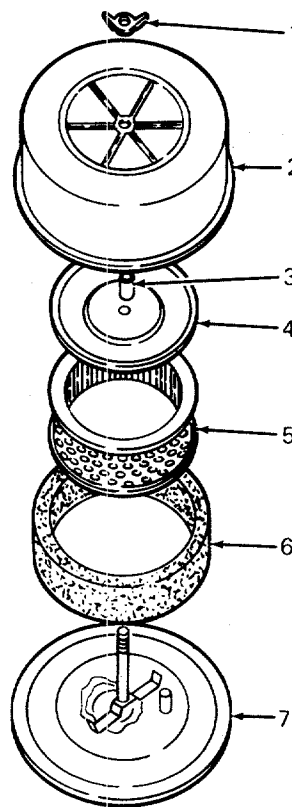

Figure 34. Air Cleaner Assembly
1. Remove wing nut and cover. (See Figure 34.)
will puncture filter element. Carefully handle new element — do not use if gasket surfaces are bent or twisted. Check the following when installing a new element: (See Figure 34.)